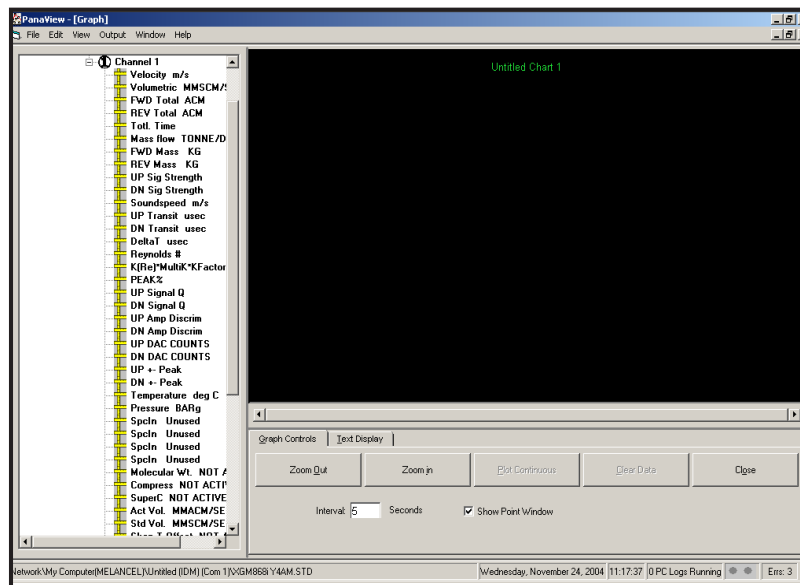

Figure 4: Graph Window
3. Using the *Window* menu, arrange the open windows in the desired format. For this discussion, Figure 4 below shows the *Graph* window in its maximized (full-screen) size.